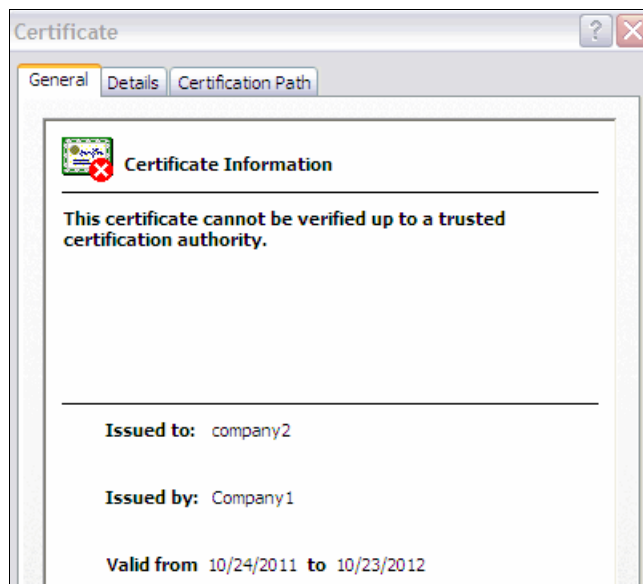

Figure 5-56 New certificate displays at login
- Log in again and the new certificate is listed, as shown in Figure 5-56.